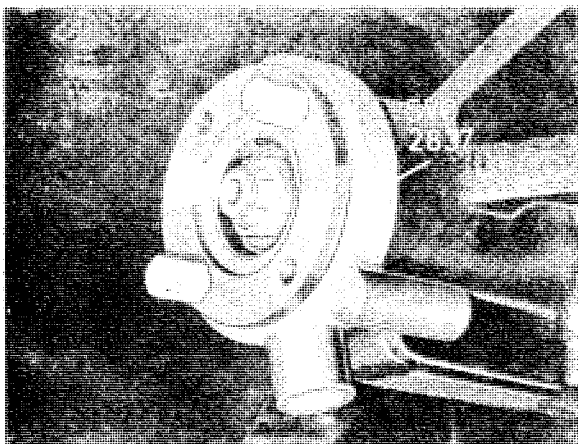
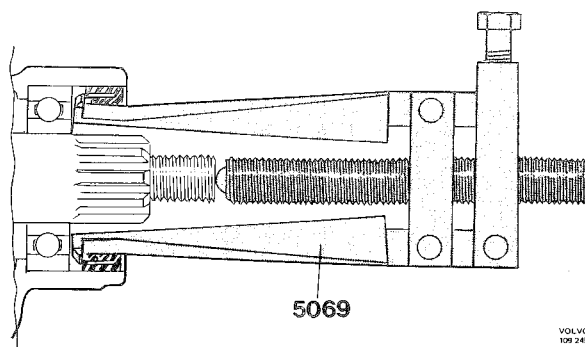
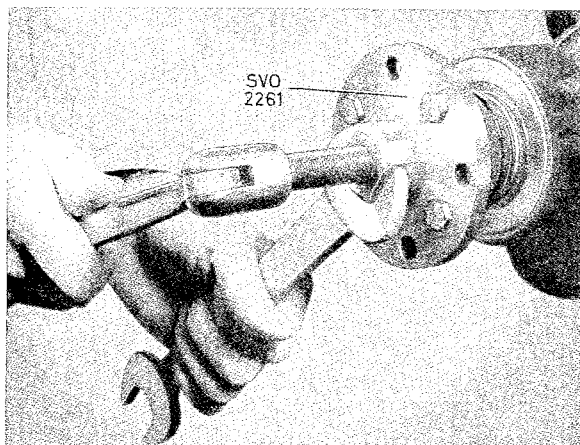

Fig. 4-135. Counterhold for flange
Fig. 4-137. Oil seal removal
Fig. 4-136. Flange removal
2. Remove the nut for the flange. Use for this purpose tool 2837, see Fig. 4-135. Pull the flange off with puller 2261, see Fig. 4-136. Pull out the old oil seal with puller 5069, see Fig. 4-137.
7. Turn the final drive and let the oil run out into a container. Use tool 2837 as a counterhold for this purpose, see Fig. 4-135. Pull off the flange with puller 2261, see Fig. 4-136. Press out the pinion.